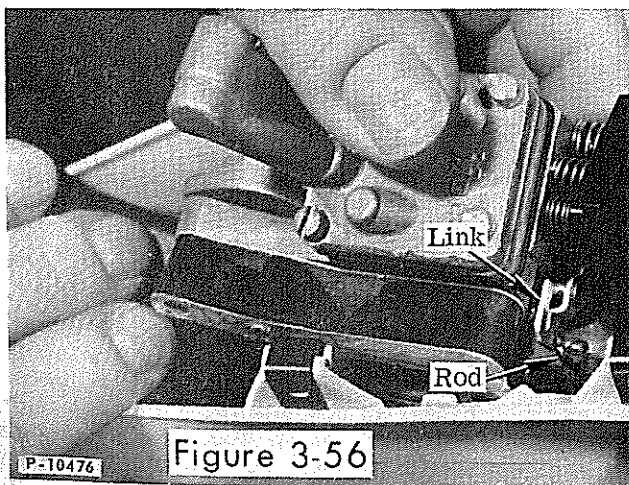

Figure 3-56
- Hold the assembled carburetor/insulator with its top toward the breaker box and its bottom toward the rear of the saw (Figure 3-56). Hook the throttle rod into the throttle link and swing the carburetor clockwise into position while sliding the rod into its engagement with the link. Put a drop of Loctite on the upper carburetor attaching screw and install it.